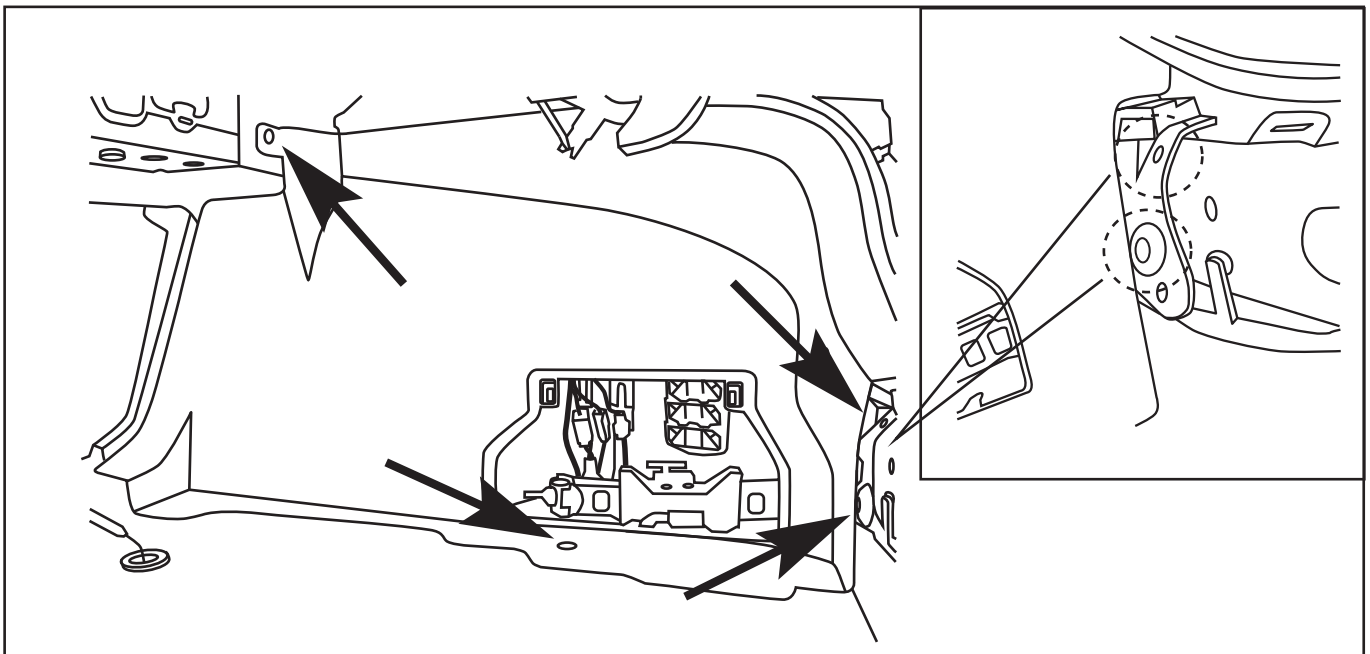

Fig. 9
11. Remove push-rivets from right-hand trunk trim (4 total) (Fig. 9).